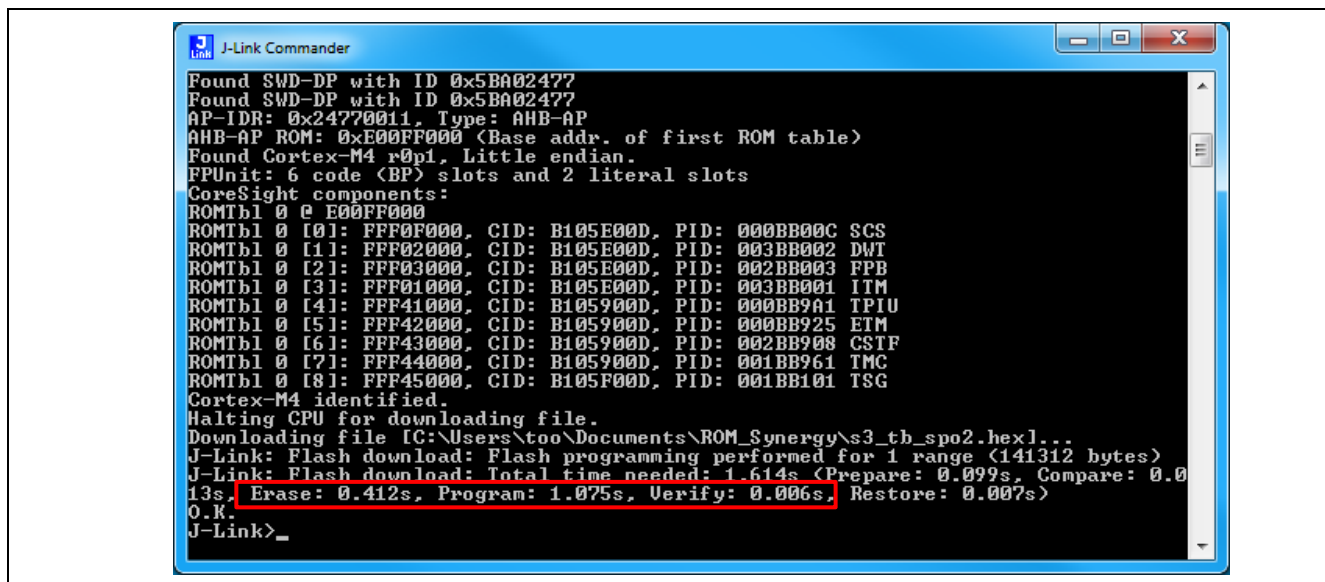

Figure 16 J-Link Commander after board programming
5. Select the appropriate binary image for respective demonstration (see Figure 16).